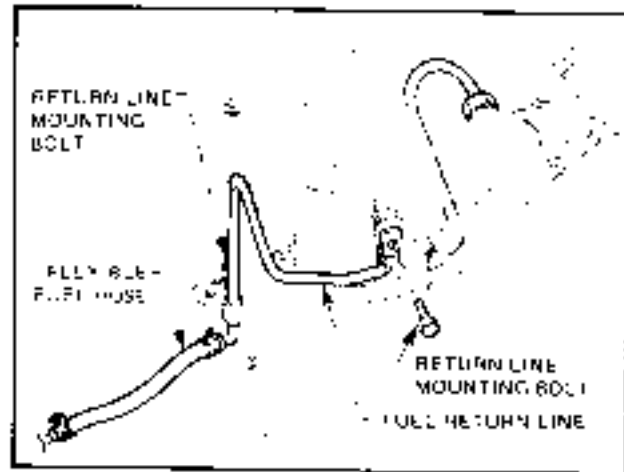

Figure 6A-29
24. Remove vacuum hoses from vacuum adaptor at the rear of the inlet manifold, remove adaptor. Refer Fig. 6A-30.